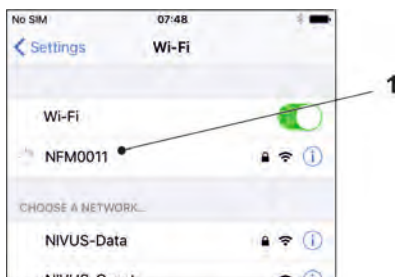

Fig. 31-13 WLAN List
4. From the list of available WLANs select the NFM (Fig. 31-13 no. 1) with the according SSID (default state = serial no.).